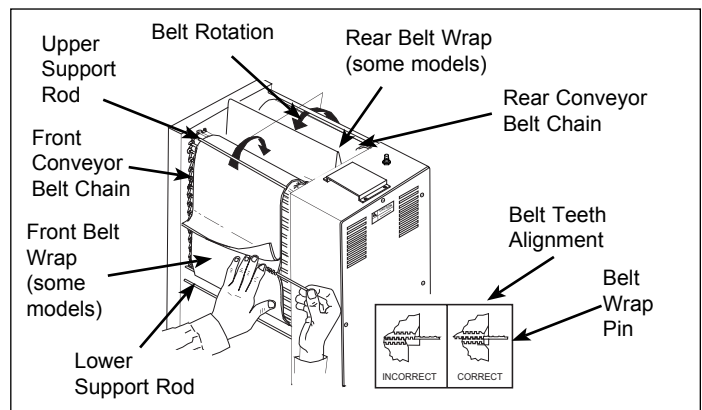

Figure 1. Removing Belt Wraps
5. Remove both the front and rear silicone Belt Wraps (if equipped) see Figures 1 and 2.